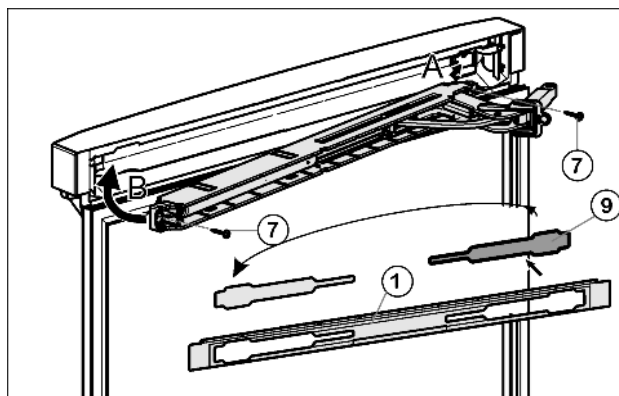

Fig. 17
- ▶ Remove the cover *Fig. 17 (9)* from the faceplate *Fig. 17 (1)* and re-insert it at the other side.
- ▶ Engage the upper soft stop unit with the joint on the hinge side (A) and swivel into place (B).
- ▶ Screw the soft stop unit firmly into place (2 mal Torx® 15) *Fig. 17 (7)*.